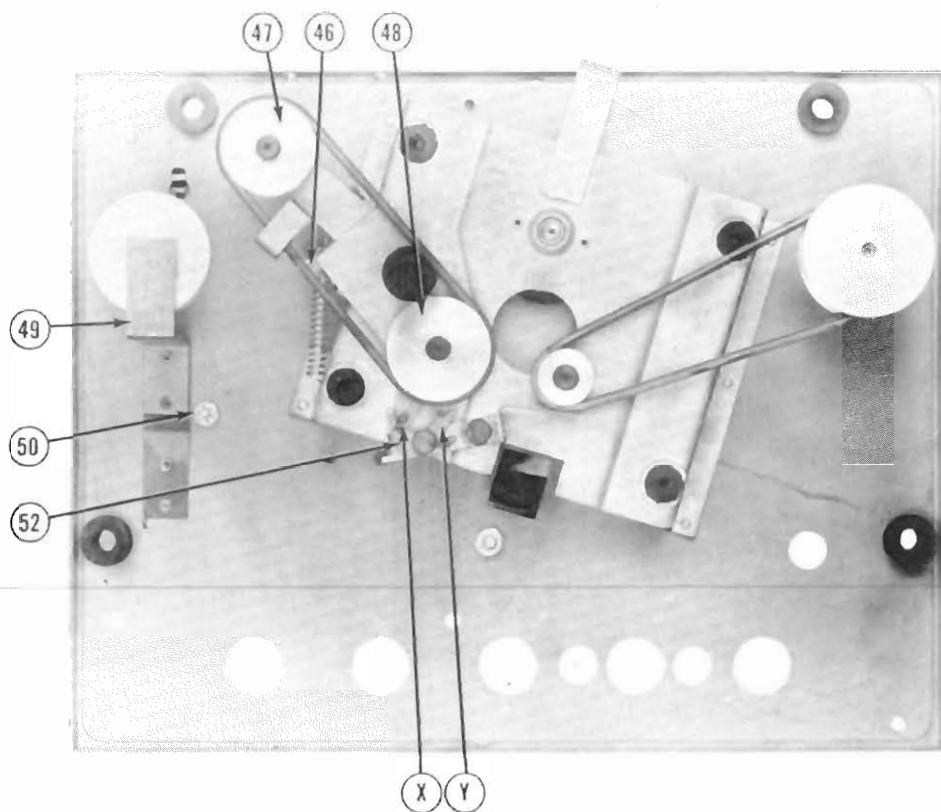

Figure 5
1. "Fast-Forward" position: The "Fast-Forward" drive belt (34) should engage the motor pulley (42) and the "Fast-Forward" pulley (33), with the kick-out lever (46) clear of the "Fast-Forward" and pulley assembly (47). The trip pin (X) on the "Fast-Forward" drive mechanism should engage the brake trip of the trip assembly (52), passing beyond the dog
(Y) of the brake trip, not exceeding 1/16 inch (See Figure 5). This prevents overrun or looping of the tape in going from "Fast-Forward" to "Forward,"